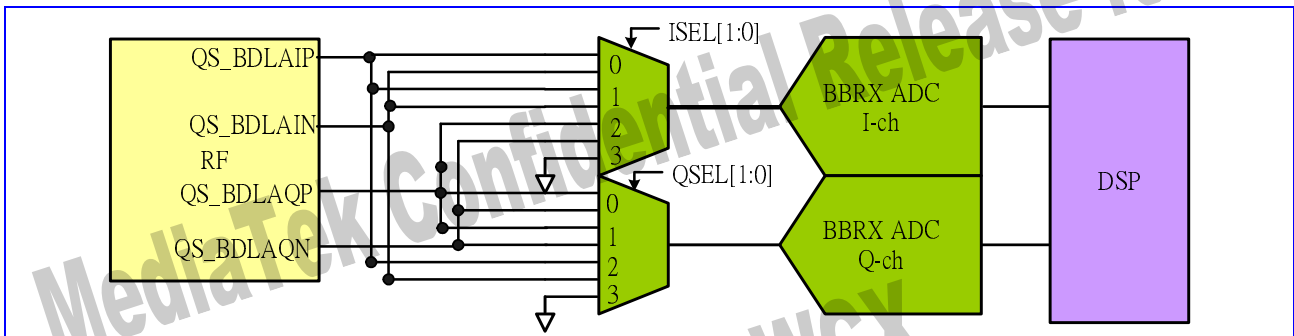

Figure 58 Base-band A/D Offset Calibration
The base-band downlink receiver (RX) provides analog hardware for DSP algorithm to correct the offset error. The connection for measurement of RX offset error is shown in **Figure 58**, and the corresponding calibration procedure is described below.